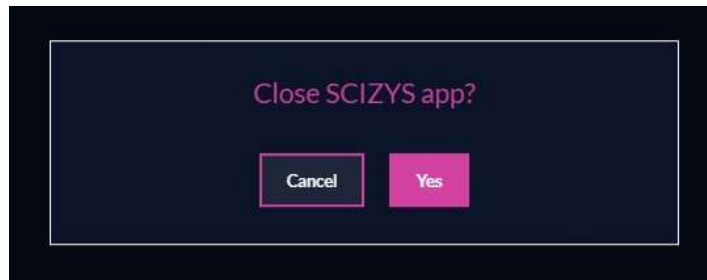

Figure 6-32 Confirmation to close SCIZYS software.
3. Click **Yes** in the window that pops up (Figure 6-32)